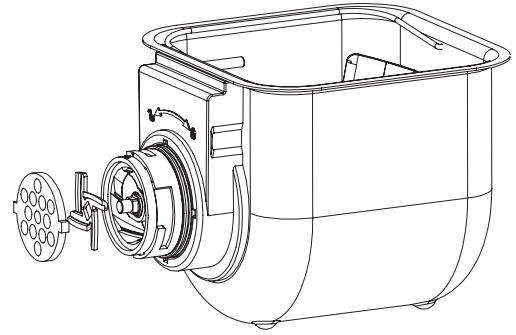
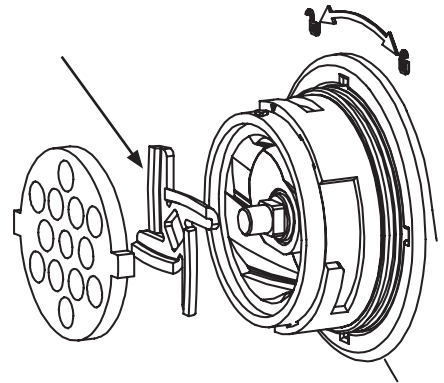

Fig. 4
Fig. 5
4. Install the Extrusion Grinder Blade and then the Extrusion Die as shown in Fig 4. Note: Flat edge of Extrusion Grinder Blade should be against the Extrusion Die as Shown in Fig 5.